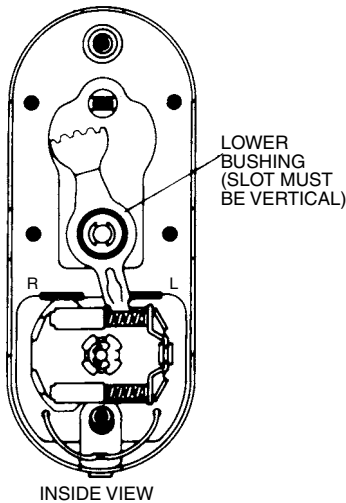

Figure 13.79 Changing hand, Step 10.
10. Install the lower bushing—the slot is vertical (Fig. 13.79).